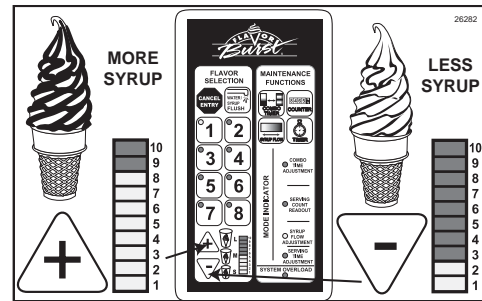

Figure 182
3. Press “+” to increase the flavor concentration or “-” to decrease the concentration. The level is indicated by the illuminated bars on the graph. (See Figure 182.)